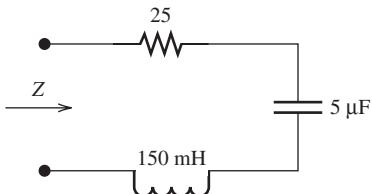

FIGURE P6.21 Circuit for Problem 6.21.
- 6.21 (B)** Find Z in Figure P6.21 for $\omega = 200$, $\omega = 500$, and $\omega = 1000$.